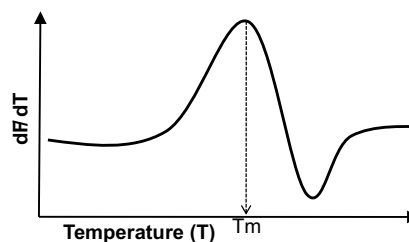

Figure 3. First derivative (slope) of the fluorescence curve (dF/dT) vs temperature.
- 3.2 Generate the protein melt curve plot using first derivative (slope) of the fluorescence curve (Figure 3).
- c. If using DNA melt curve software to analyze protein melting, the T_m will be at the lowest $-dF/dT$ value (at the lowest point on the curve). Some software may have the ability to change the sign, and plot dF/dT (instead of $-dF/dT$); in this case the T_m is the temperature corresponding to the highest dF/dT value (peak of the curve, see Figure 3). If the software is not compatible with protein melt curve analysis, you may need to export the raw data and manipulate it using software such as Microsoft Excel®. Free online tools, such as DMAN (<http://www.structuralchemistry.org/pcsb/dman.php>) also are available for data analysis.